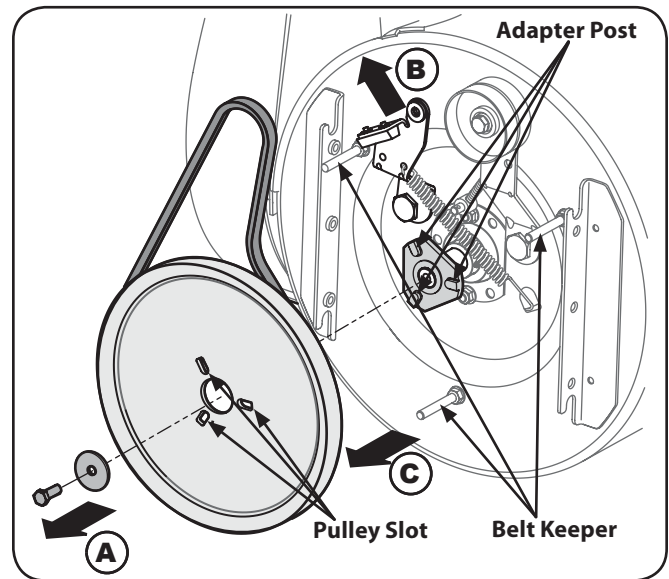

Figure 7-7
6. Block the impeller with a piece of wood to prevent from spinning and use a 1/2" wrench to remove the hex screw and flat washer from the center of the auger input shaft and auger pulley adapter. Refer to Fig. 7-7.
7. Lift the brake bracket assembly out of the pulley groove and slide the pulley assembly off the posts of the auger pulley adapter to remove the old belt. Refer to Fig. 7-7.
9. Turn the pulley as necessary to align its three slots with the posts of the pulley adapter, then move the brake bracket assembly away from the input shaft. While aligning the pulley slots and adapter posts, push the auger pulley fully onto the adapter. Refer to Fig. 7-7.
NOTE: If the pulley adapter was removed with the pulley, align the splines of the pulley adapter and auger input shaft, and push the pulley and adapter onto the input shaft. Refer to Fig. 7-7.